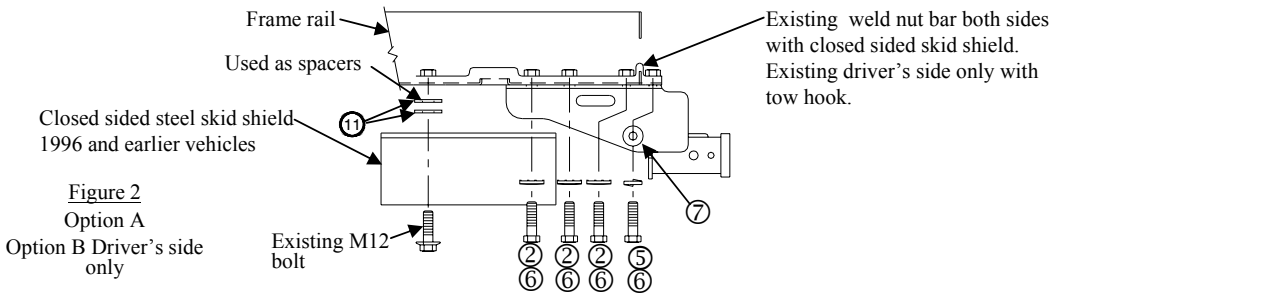

Figure 2
See Figures 2, 3, 4 & 5 for proper fastener combinations
Note: Five (5) installation options are possible depending on vehicle configuration refer to Figures 2, 3, 4 and 5.
2. **Option A** – See Figure 2.
- Option C** – See Figures 2 & 3